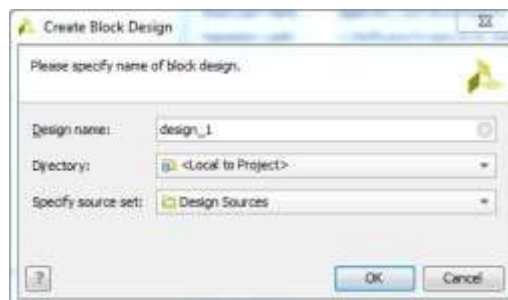

Figure 3: Na Figure 6: Add IP
1. From the Flow Navigator window (usually leftmost in Vivado), under IP Integrator item, select Create Block Design. The Create Block Design dialog box opens, as in Figure 3.